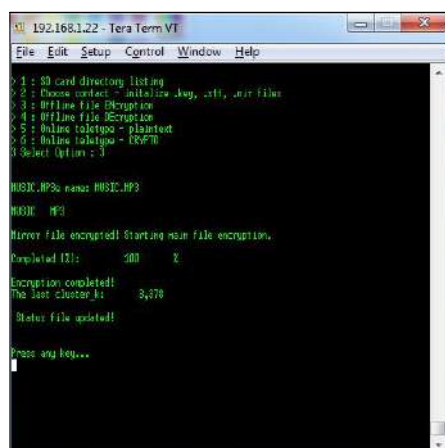

Figure 6. Encryption of the file completed.
6. She chooses option 3 — "Offline file Encryption" — and enters the complete filename including extension. The MCU will first encrypt the mirror file BOB.MIR and then proceed to encrypt the main file MUSIC.MP3. When encryption is completed, the MCU will update the status in the BOB.STT file (**Figure 6**).